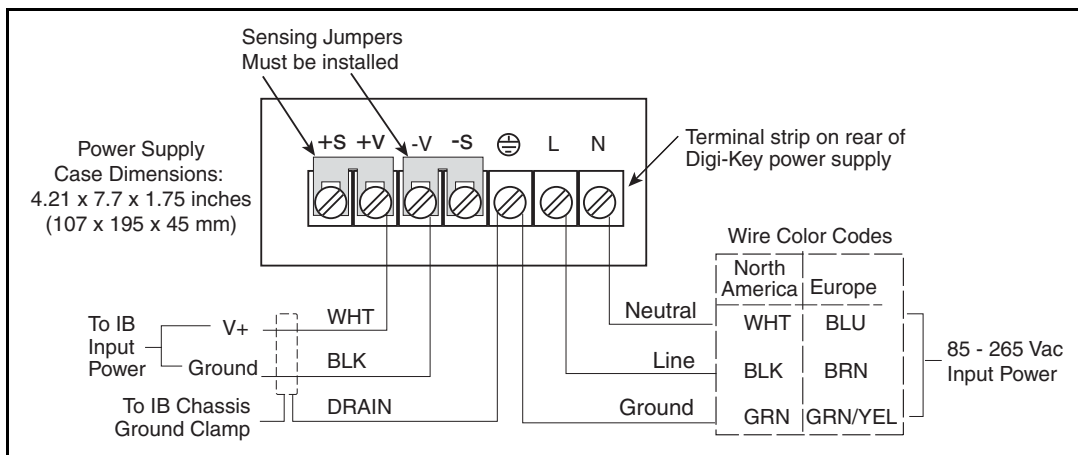

Figure 39. Digi-Key Power Supply Wiring Diagram
**Digi-Key** Model 285-2345-ND 12 Vdc, 13 ampere power supply, or Model 285-2346-ND 24 Vdc, 6.5 ampere power supply. (See Figure 39 for connection wiring diagram which is identical for either the 12 or 24 Vdc model.) To order, visit their website at [www.digikey.com](http://www.digikey.com).